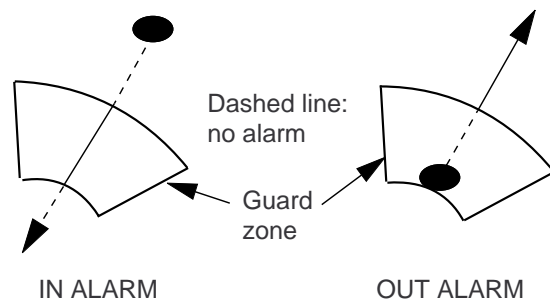

Figure 2-12 Auto In/Out Alarm
1. Mentally create the guard zone you want to display on-screen. See Figure 2-12.
The indication "**GUARD" (asterisk blinking) appears at the upper right-hand side of the screen. See Figure 2-12 (2). The asterisk indicates the guard zone is partially set, but the alarm function has not been actuated. It disappears once the guard zone is set completely.
3. Moving the trackball clockwise, set the lower (upper) right edge of the guard zone. The guard zone now appears on the display and alarm function has been actuated, See Figure 2-12 (3).